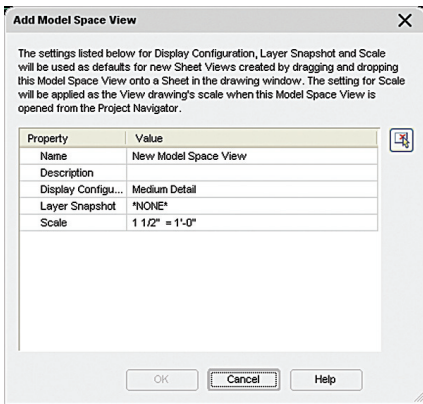

Figure 7
- Create and name New Model Space Views of the applicable details (Figure 7). Give the model view the name that you want to see in the detail title. Select the icon in the right margin of the dialog